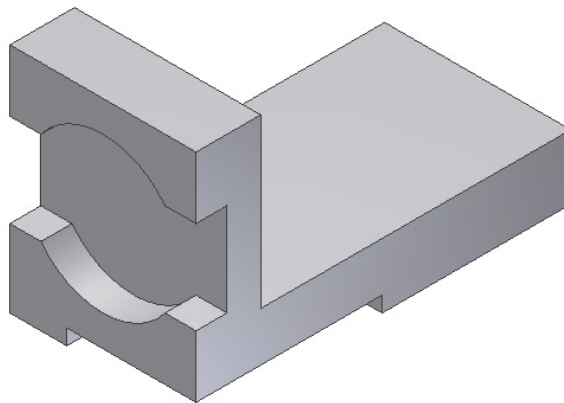

Figure 5-94 Model after creating the cut feature on the left face
1. Extrude the profile to a distance of 12 mm using the **Cut** operation. The model after creating a cut feature on the left face is shown in Figure 5-94.